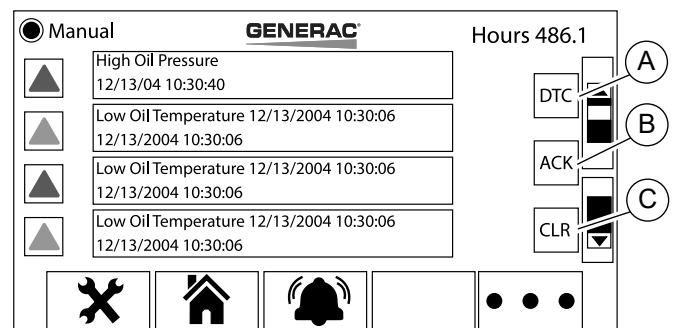
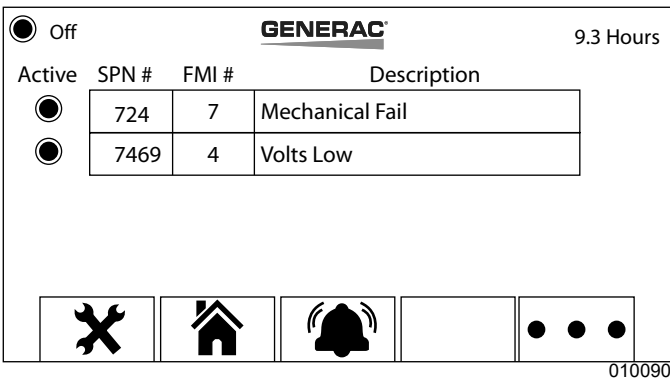

Figure 3-11. Events List
Figure 3-12. DTC Screen
See Figure 3-11. Press the “DTC” button (A) to display the J1939 engine Diagnostic Trouble Code events screen (Figure 3-12). The “ACK” button (B) is present on both alarm screens. All events are acknowledged by pressing the “ACK” button. Events that have been acknowledged will change color when the “ACK” button is pressed. Press the “CLR” button (C) to clear the screen. However, alarms and warnings can reoccur.